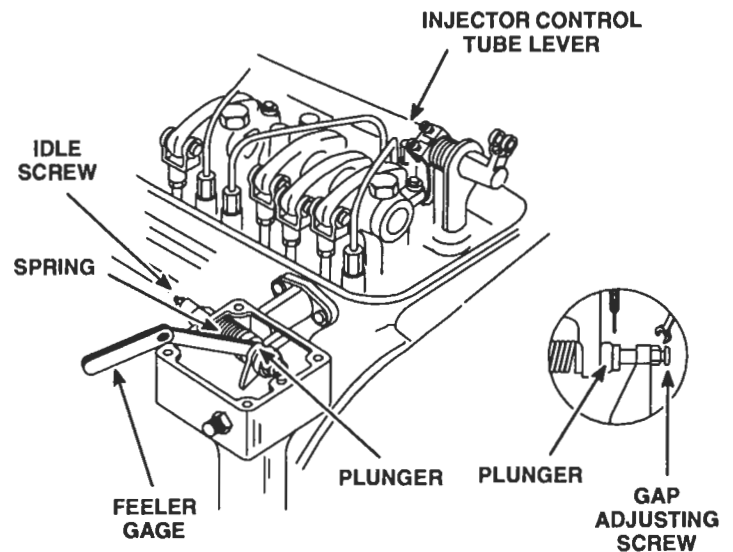

Figure 1. Adjusting Governor Gap using Tool J 3172
7. Check the gap between the low-speed spring cap and the high-speed spring plunger with a feeler gage (Figure 1.) The gap should be .002–.004 inch. If the gap setting is incorrect, reset the gap adjusting screw.